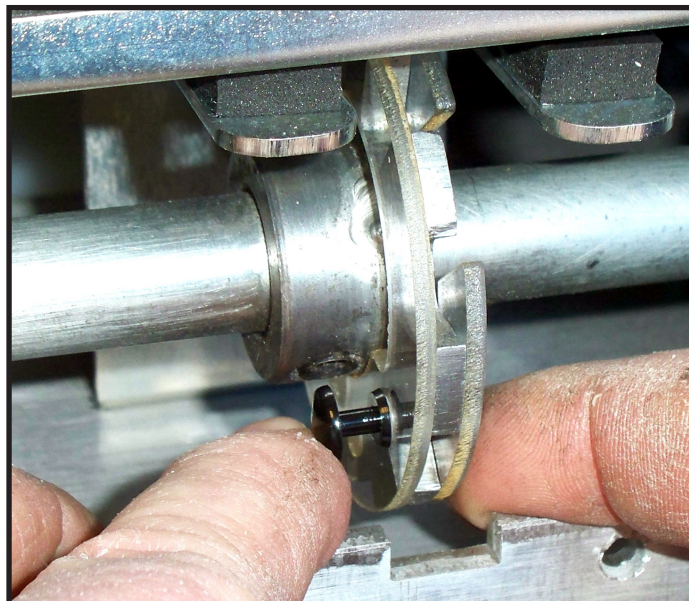

Figure 4
4. Hold the two shields together as the head of the plastic snap rivets are pressed to expand the end opposite the head, locking the shields together. Refer to *Figure 4*.